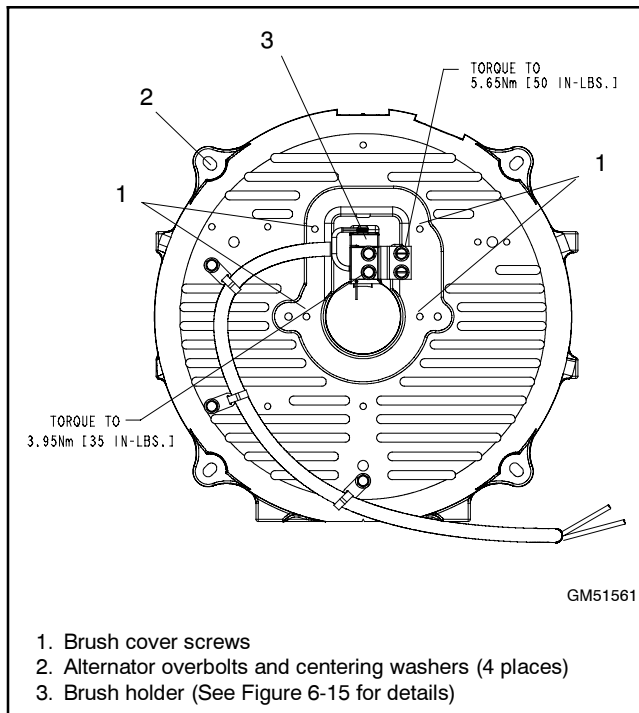
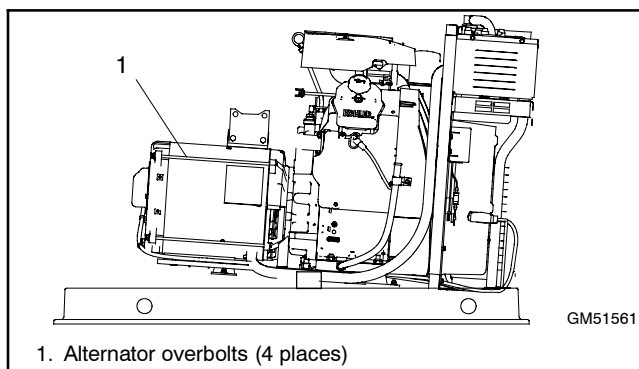
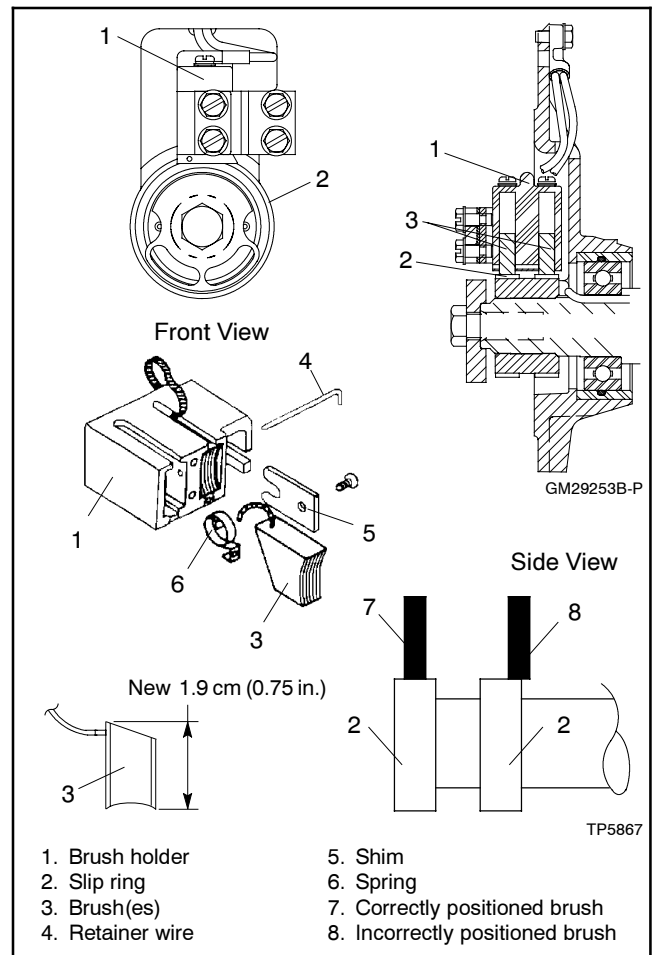
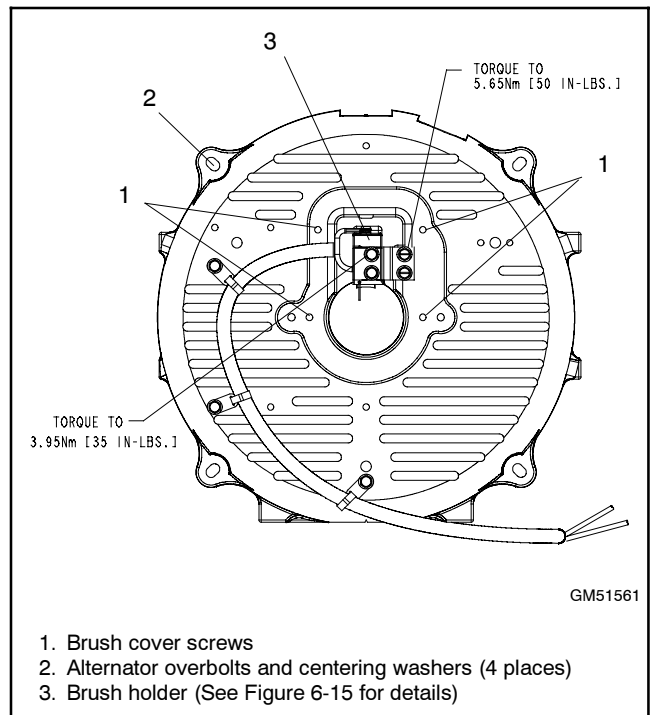

Figure 6-13 Alternator End Bracket and Brush Assembly
Figure 6-14 Alternator Overbolts
Figure 6-15 Brush Details
Figure 6-20 End Bracket and Brush Assembly
22. Remove 4 screws securing the brush cover to the alternator end bracket. See Figure 6-13.
24. Raise the brushes in the brush holder and insert a small piece of wire into the brush holder retainer wire hole. See Figure 6-13 and Figure 6-15.
- a. Remove the brush holder from the end bracket. See Figure 6-13.
- b. Inspect the brushes. Replace brushes when they are worn to half of their original size. See Figure 6-15 and Section 5.6, Brushes.
26. Remove the alternator overbolts and centering washers. See Figure 6-13 and Figure 6-14.
- e. Thread the four overbolts with locating washers through the end bracket and into the generator adapter. Position the locating tab of each washer to the outer edge of the oblong (OBROUND) hole on the end bracket. See Figure 6-20. The overbolts should be parallel to the outside of the alternator. If the overbolts are slanted, rotate the locating washer 1/2 turn. Do not final tighten the overbolts at this time.
- a. Install the brush holder onto the end bracket. Torque the mounting screws to the values shown in Figure 6-20. Verify that the brushes are not sticking in the holder. See Figure 6-15.
- c. Reinstall the brush cover onto the alternator end bracket. See Figure 6-20. Verify that the brush leads are not pinched between the brush cover and end bracket.